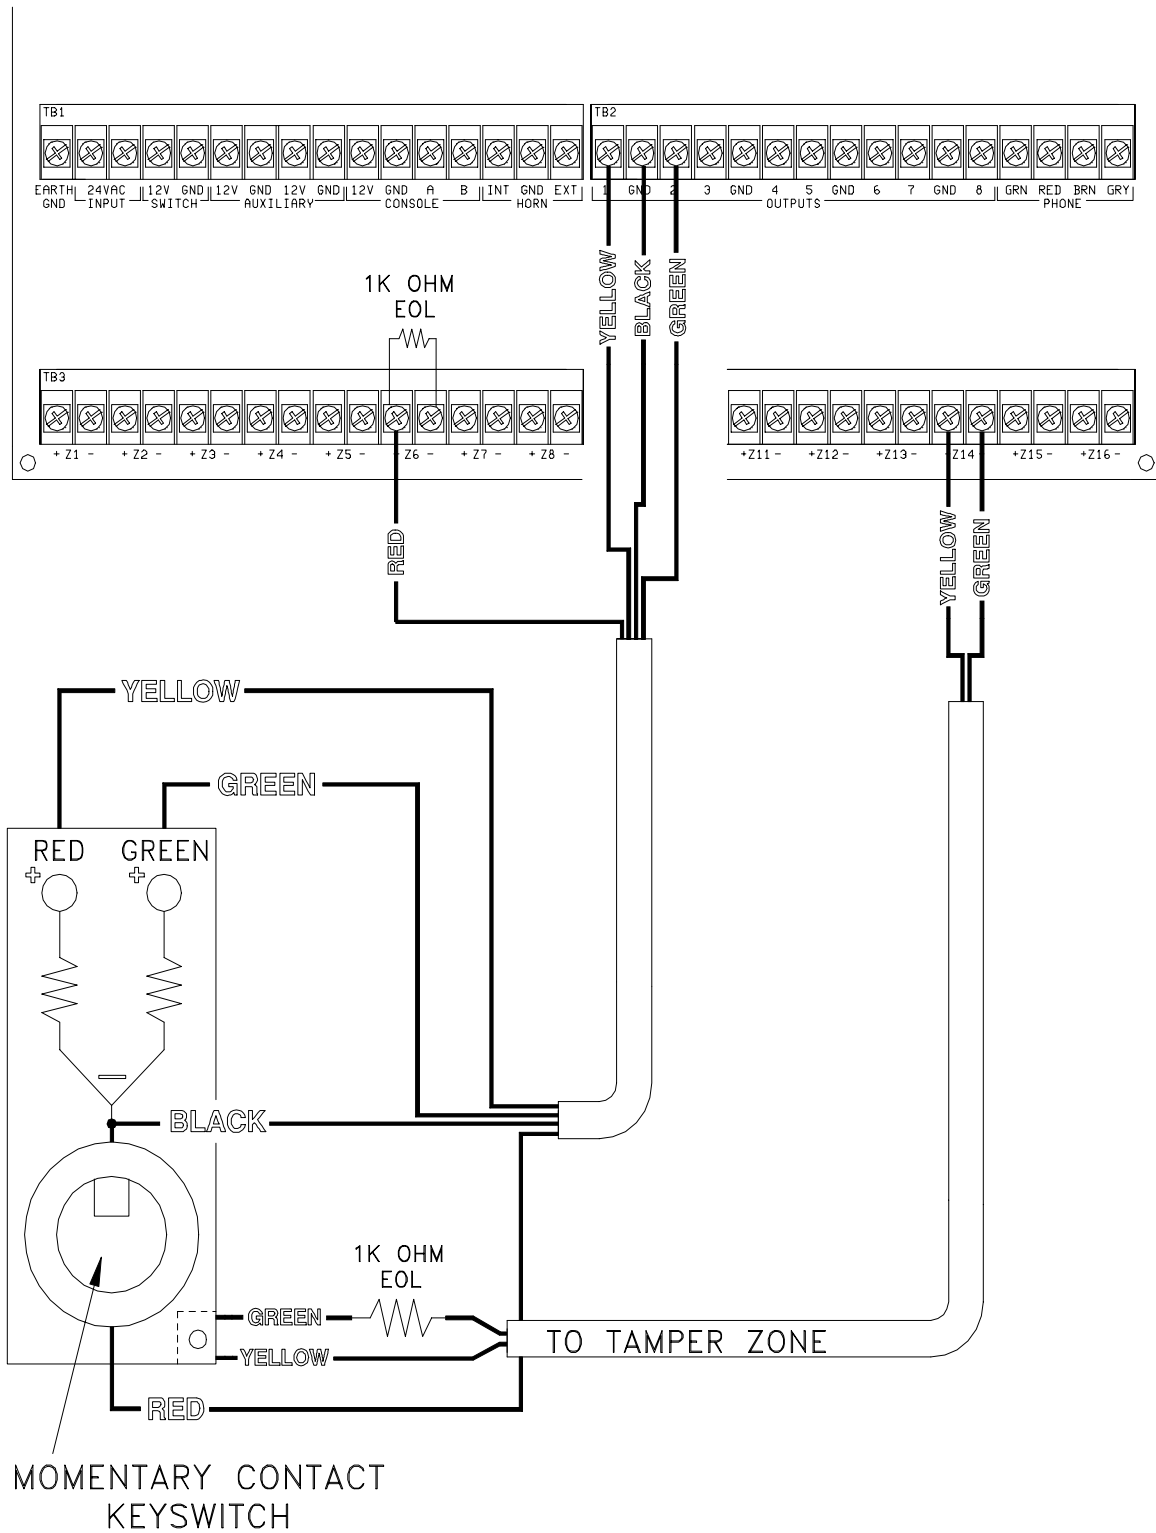

FIGURE 8
4. Refer to **FIGURE 8 (REMOTE KEYSWITCH CONNECTION)** for this configuration.